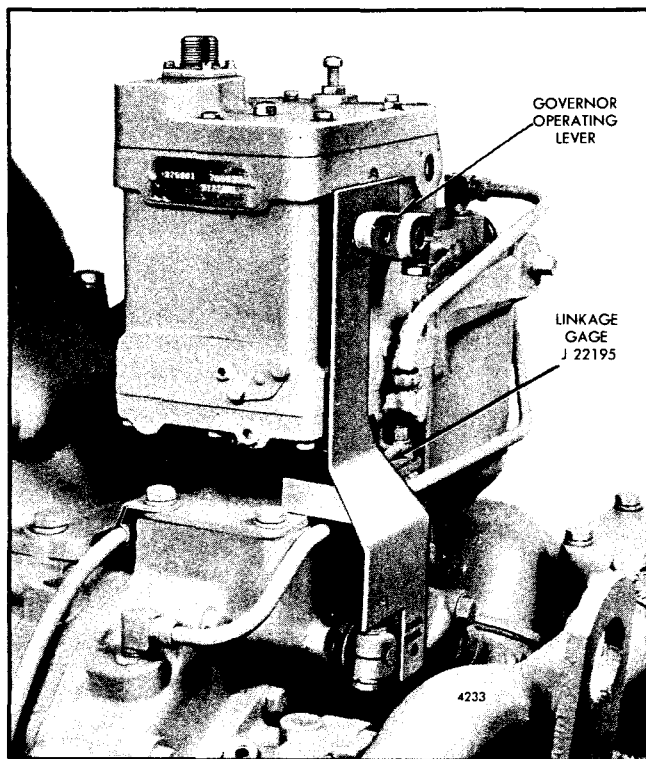

Fig. 4 - Governor Operating Lever in Position
15. Turn the terminal shaft clockwise to the no-fuel position. Then place the governor operating lever on the terminal shaft so that the bolt hole in the lever is aligned with the center of the slot in the linkage gage (Fig. 4). Remove the gage and tighten the clamping bolt on the lever.